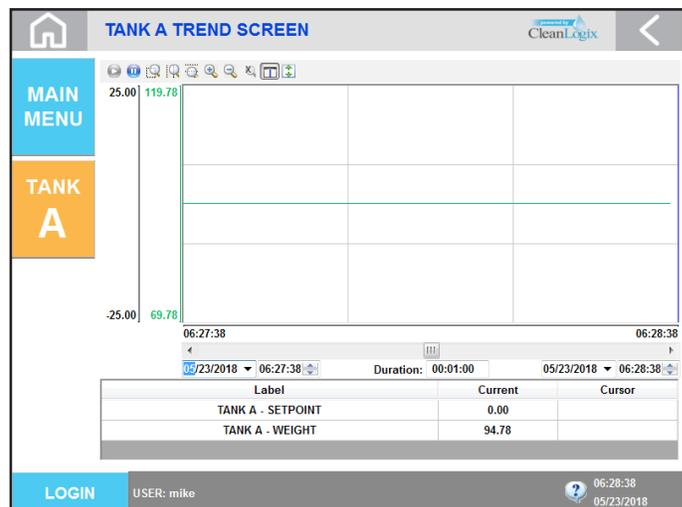

Figure 16.4: Trend Screen
- Shows a current and historical trend line of the weigh system for troubleshooting purposes [Figure 16.4]